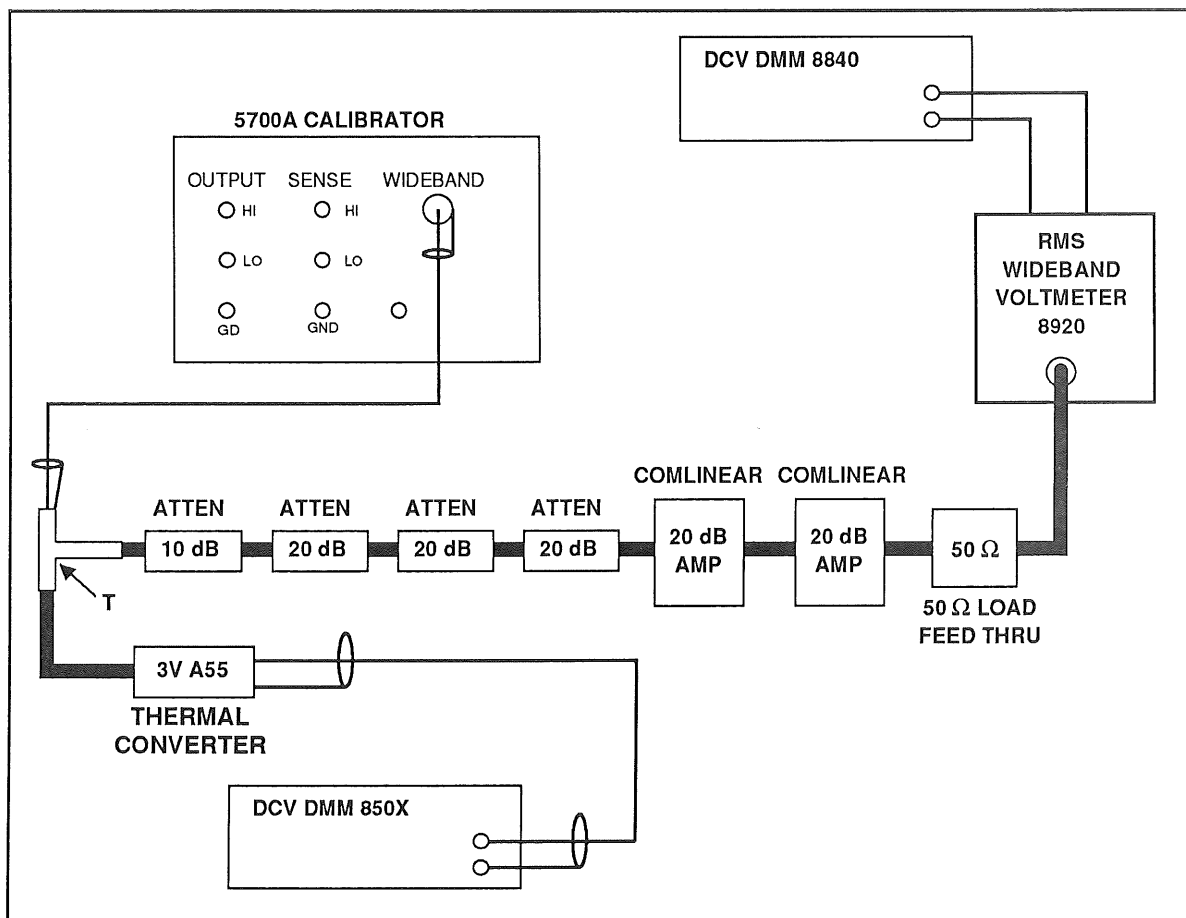

Figure 3-13. Wideband Flatness Calibration
1. Connect the equipment as shown in Figure 3-13.